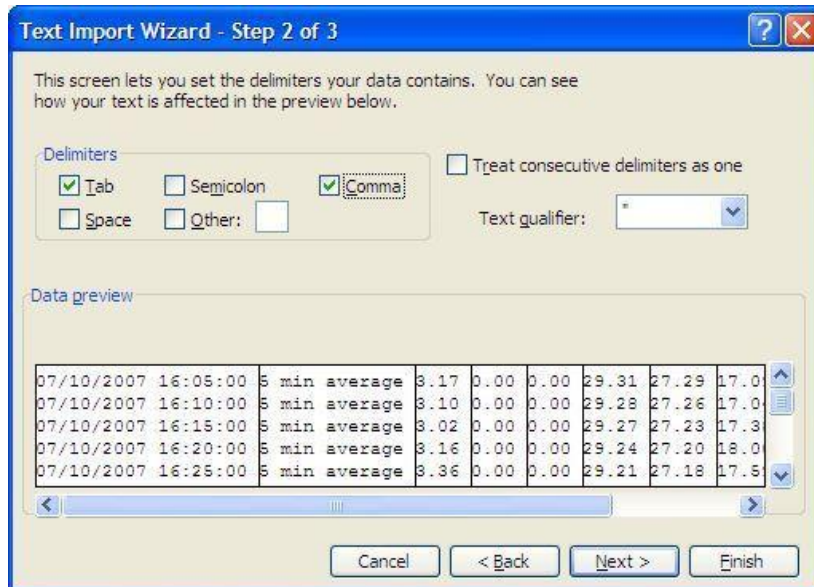

Figure 32 – Step 2
7. Your data should be imported into Excel, as shown below in Figure 32.